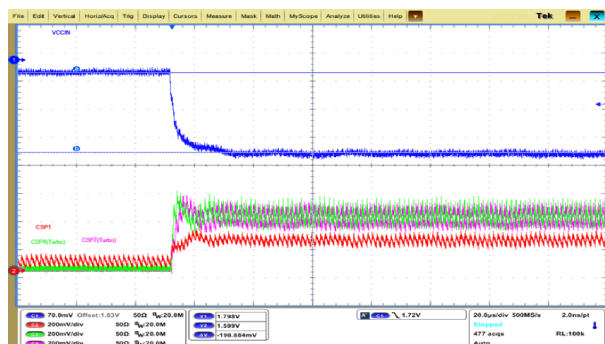
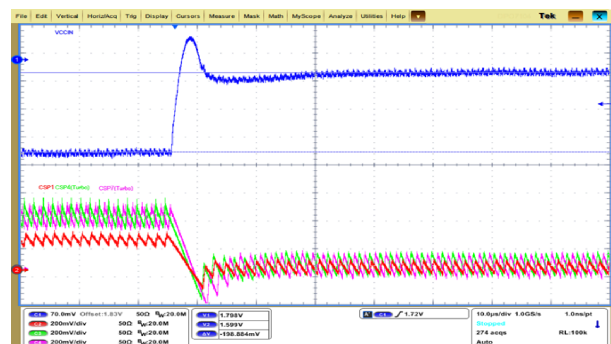

Figure 7-16. Load step with Turbo Mode
Figure 7-17. Load removal with Turbo Mode
- As shown in Figure 7-16 and Figure 7-17, the design still meets the transient requirement. The efficiency improvement is approximately 0.3-0.5%.